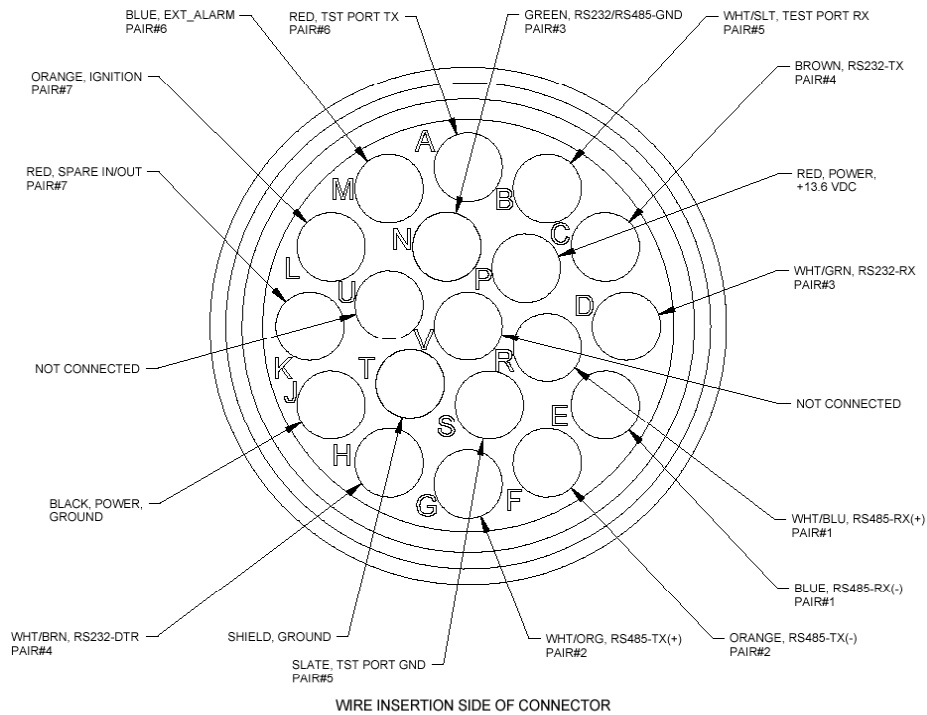

Figure 4. Wireless Matrix MBS2 Connector Configuration Diagram
11. The shells and bodies are supplied separately and are attached to the cable after the unit cable is in place. This allows the cable to be inserted through a smaller opening in the vehicle chassis. Figure 4 displays the pinout of the factory-assembled connector that connects to the Wireless Matrix MBS2.